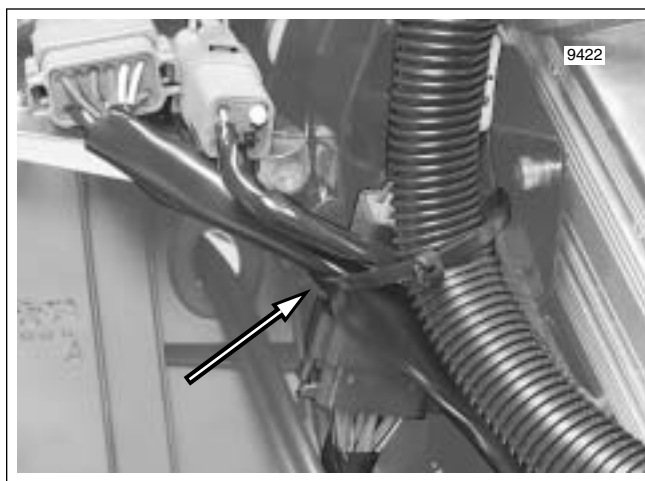

Figure 3. Cut Cable Strap to Release Tubing, Conduit and Connector From Fairing Bracket
5. Cut cable strap to release convoluted tubing of interconnect harness, conduit of main to interconnect harness connectors [2] and [156], and housing of main to interconnect harness connector [1] from right fairing bracket. See Figure 3.
11. Using oval shaped hole in right fairing bracket, install **new** cable strap capturing convoluted tubing of interconnect harness, conduit of main to interconnect harness connectors [2] and [156], and housing of main to interconnect harness connector [1]. See Figure 3.